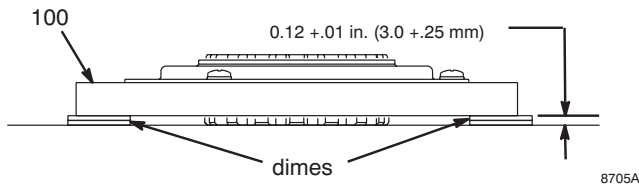

FIG. 10
1. FIG. 10. Lay two stacks of two dimes on smooth bench surface.
2. Lay armature (100) on two stacks of dimes.